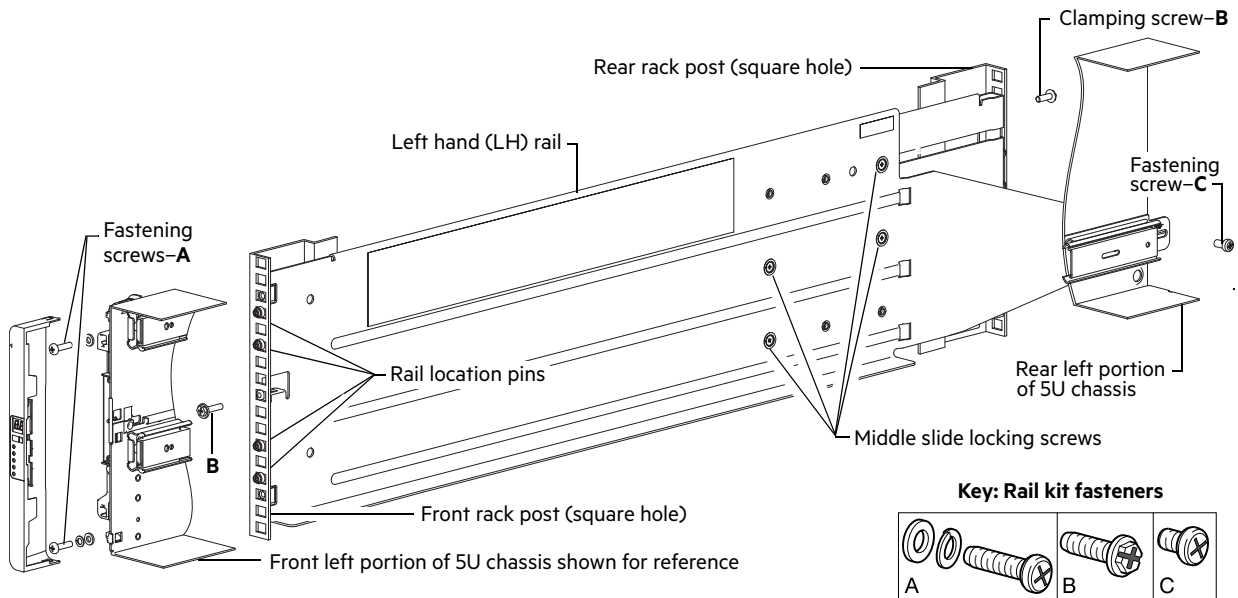

Figure 50 Securing brackets to the rail (left hand rail shown for 5U)
3. Locate the rail location pins inside the front of the rack, and extend the length of the rail assembly to enable the rear location pins to locate. Ensure the pins are fully located in the square or round holes in the rack posts. See also Figure 50.
7. Fasten the front of the enclosure using the enclosure fastening screws (x4) as shown in Figure 50.